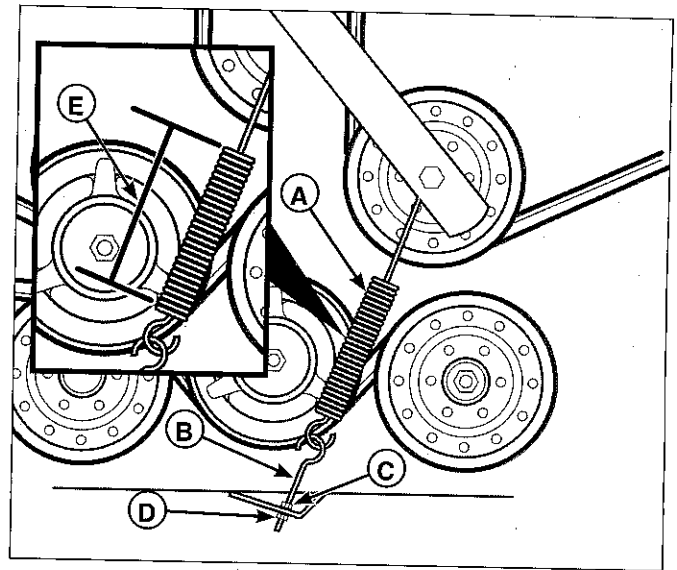

Figure 54. Mower Belt Idler Spring Length
3. Use the Mower Belt Idler Spring Length chart to determine the correct spring length (E, Figure 54).
4. Measure the coil length of the mower belt tensioner spring (A.). The measurement should equal the measurement as designated in the chart. If the measurement does not equal the measurement as designated in the chart, adjust the anchor eyebolt (B).